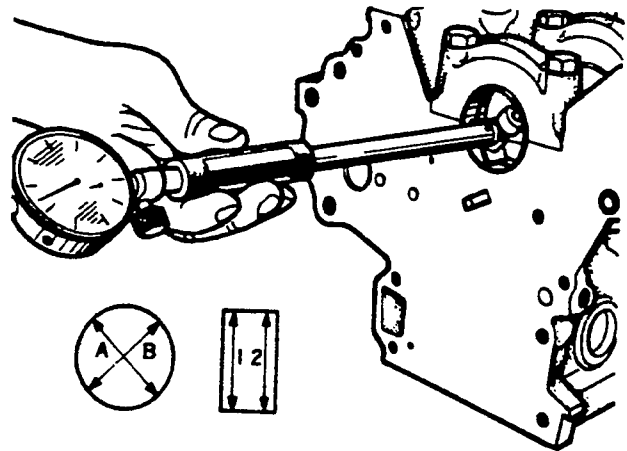

FIGURE 9-59. MEASURING MAIN BEARING I.D.
- Measure the journal outside diameter and main bearing inside diameter and calculate the oil clearance from the difference (Figure 9-59). Obtain the oil clearance between the crank pin and the connecting rod bearing by the same procedure.